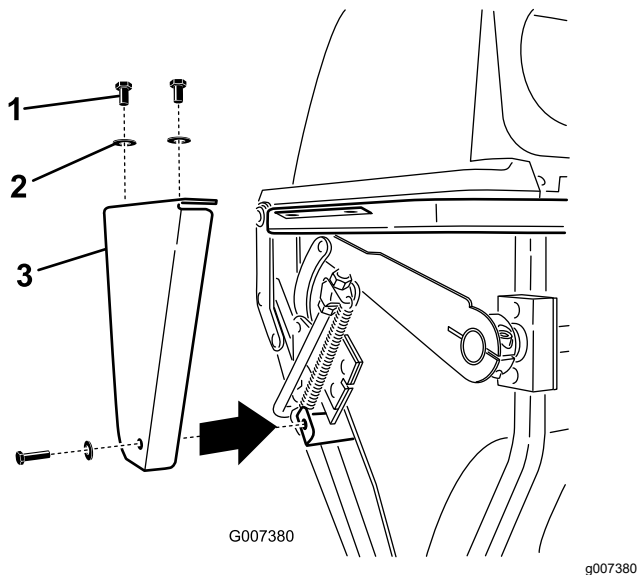

Figure 53
1. Remove the side plate from both sides of the bagger (Figure 53).